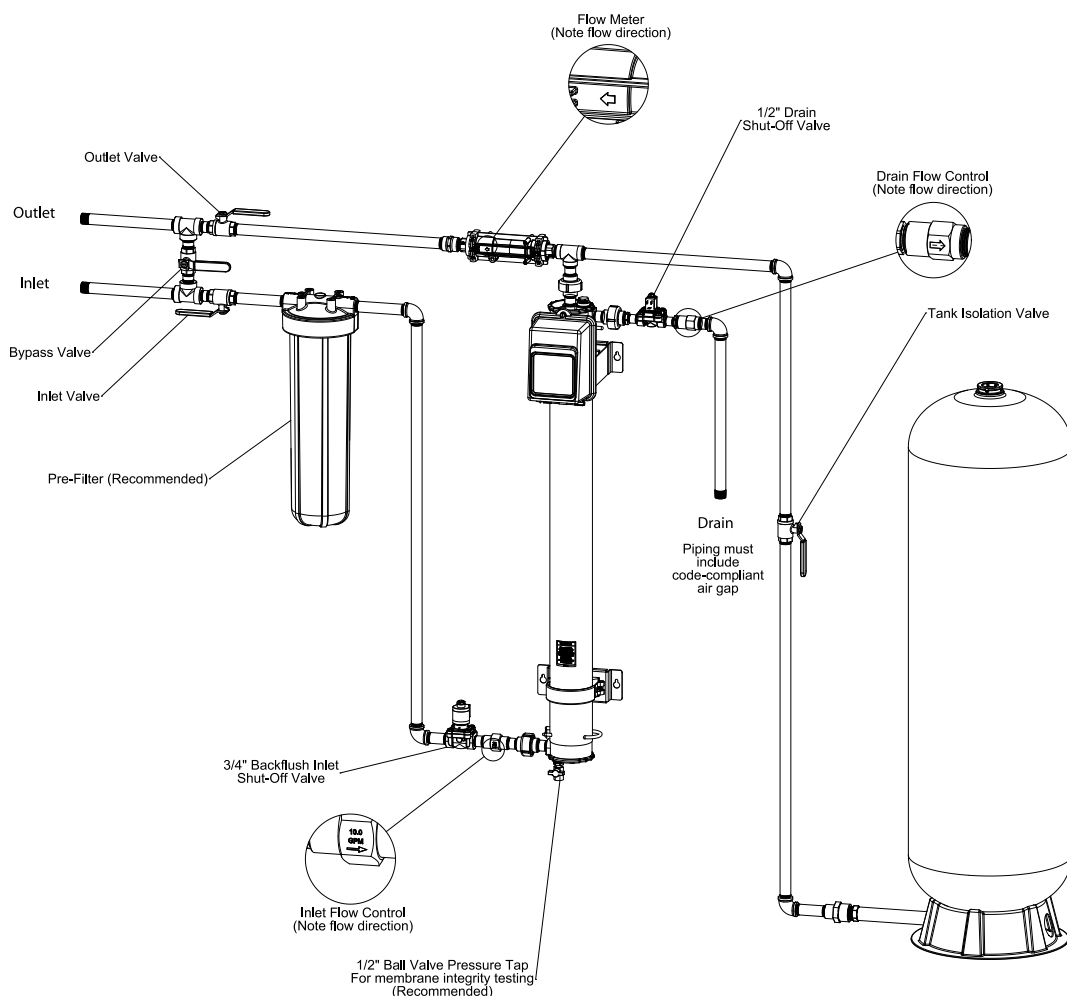
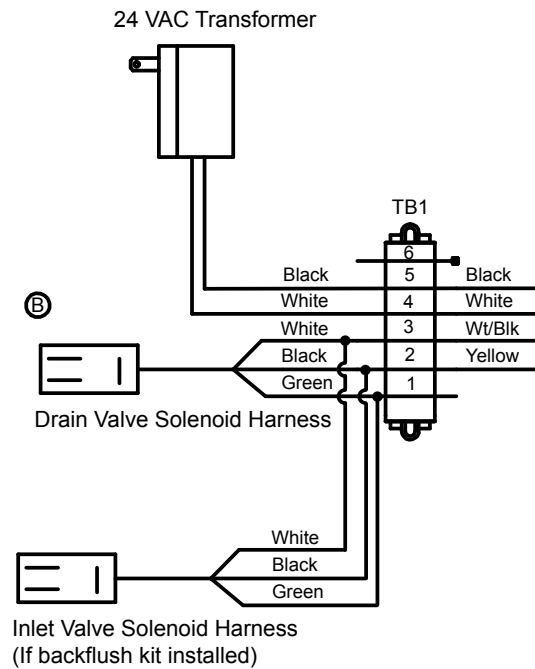

Figure 1: Backflush Surge Tank Installation
Figure 5: Meter/Solenoid Electrical Connection Diagram
Connect the FreshPoint™ to the plumbing supply as shown in Figure 1. It is recommended that the plumbing include a system bypass for future servicing, etc. A 200 um sediment pre-filter is recommended. For ease of membrane element replacement, unions are recommended as indicated on Figure 1. The backflush tank should be installed on a tee before the flow meter. The backflush tank precharge pressure should be set to 20 psig (1.3 bar).
3. Securely thread the female half of the union (Item 7B) onto the nipple extending from the 10 gpm (37.8 Lpm) flow control. If installing with the backflush kit, insert the backflush kit inlet solenoid valve between the union and the flow control (see Figure 1). Connect the inlet solenoid valve wire harness to the same terminals as the drain solenoid valve (see Figure 5). If installing recommended integrity test fittings (see Figure 8), install on the off-center bottom port on the bottom end cap (Item 1C).
Meter/Solenoid Electrical Connection (Refer to Figure 5)